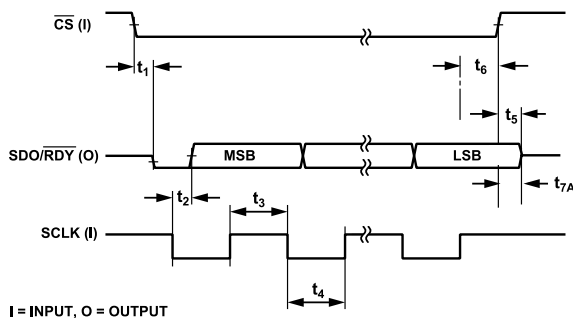
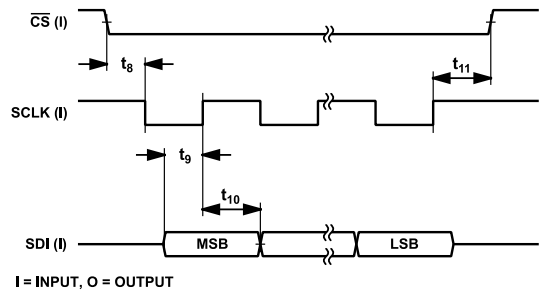

Figure 4. Read Cycle Timing Diagram (SDO and \overline{RDY} Share a Pin with Bit SDO_RDYB_DLY Set)
Figure 5. Write Cycle Timing Diagram
- ² See Figure 4 and Figure 5.